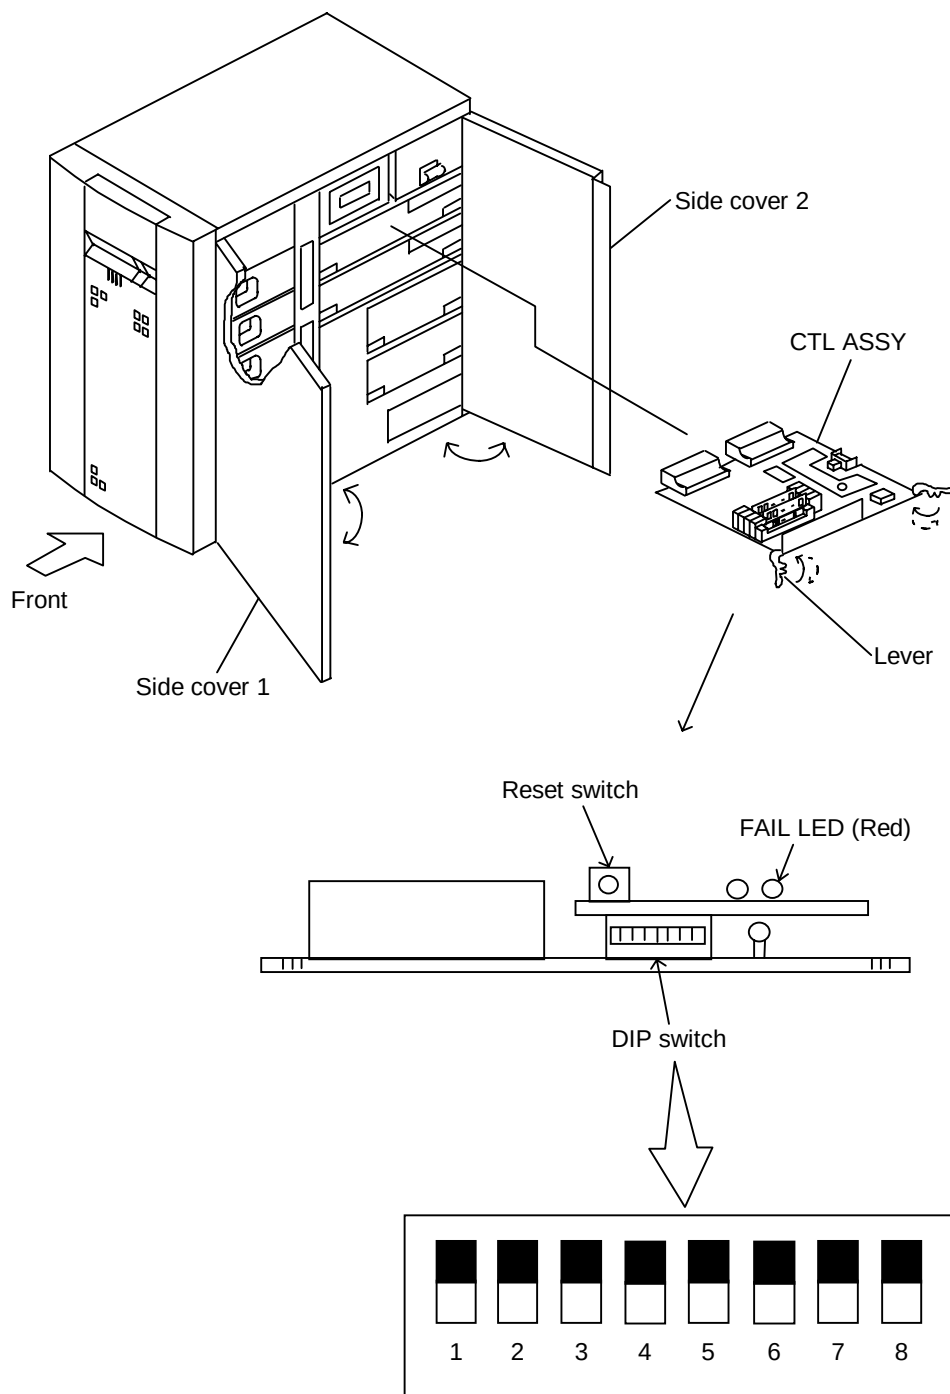

Figure 8.1.1 Replacing CTL ASSY
8. Replacing CTL ASSY (See Figure 8.1.1.)
(1) Removing procedure
- ① First open the side cover 1 and then the side cover 2. (See MK-REP0160.)
- ② Disconnect the cables (RS232C).
- ③ Confirm the blocked CTL ASSY (with the FAIL LED turned on). (See Figure 8.1.1.)
- ④ Take out the CTL ASSY by pulling both levers on left and right side at the same time toward the directions shown by allows (···→)
- ⑤ Remove the CACHE ASSY. If the LAN ASSY is installed, also remove it.
(2) Installing procedure